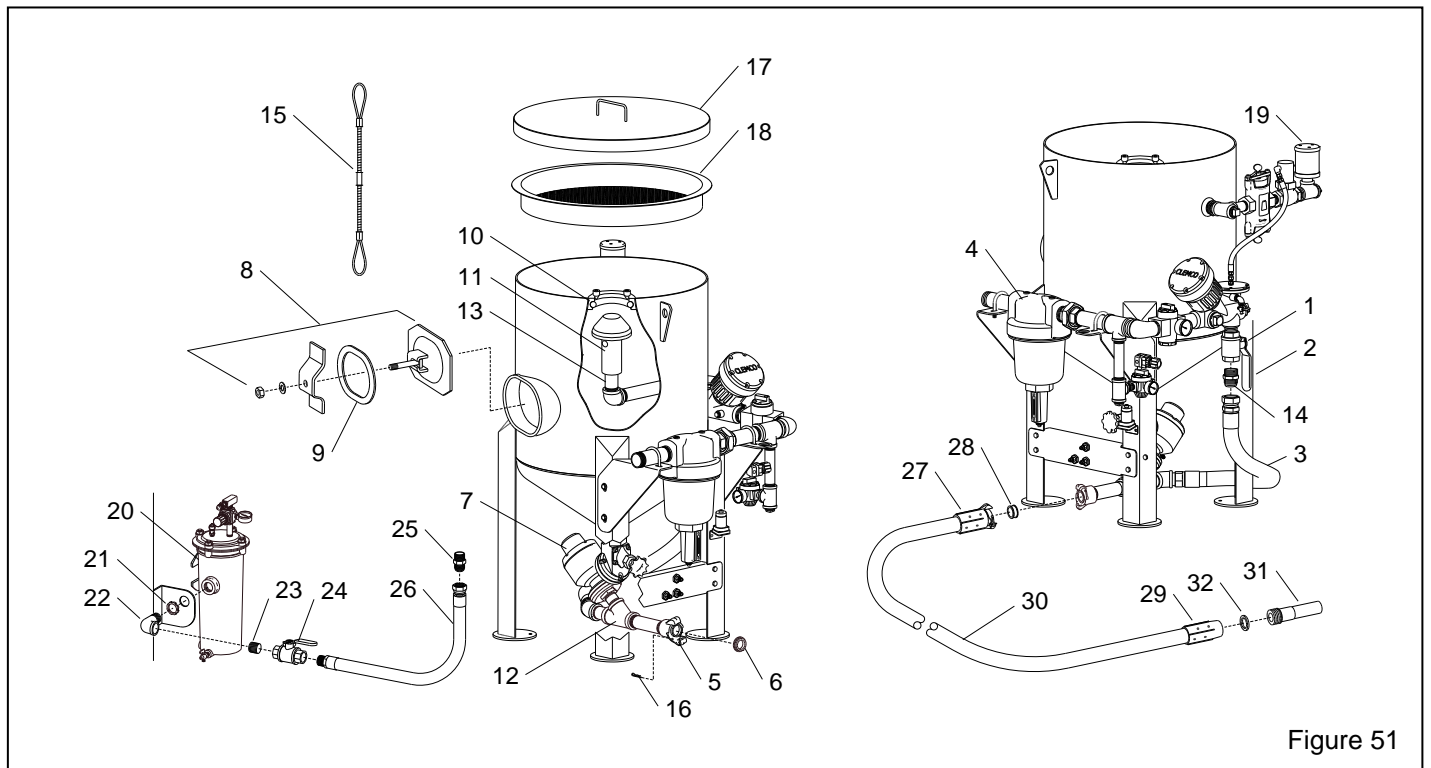

Figure 51
9.1 Blast Machine and Accessories – Figure 51